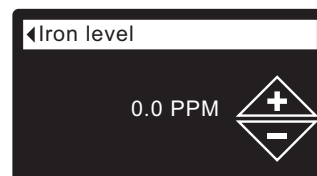

FIG. 50
5. Press the SELECT (O) button to display the Iron level screen (See Figure 50).